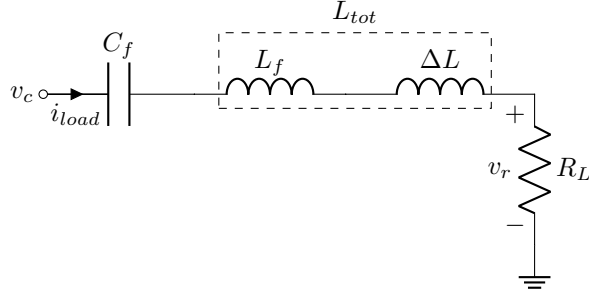

Figure 12: Traditional filter with impedance matching for a Class E Amplifier
8. Finally, we can choose the filter. We want a filter with infinite impedance at all frequencies except at our chosen frequency. An inductor and capacitor in series does that, as shown in Figure 12.
Theoretically, you want a perfect filter with infinitesimal bandwidth ($\Delta\omega$). The ratio of a filter's frequency to its bandwidth is a filter's $Q = \frac{\omega}{\Delta\omega}$, so you'd like an infinite Q . For a given Q , you can therefore find C_f and L_f in Figure 12: